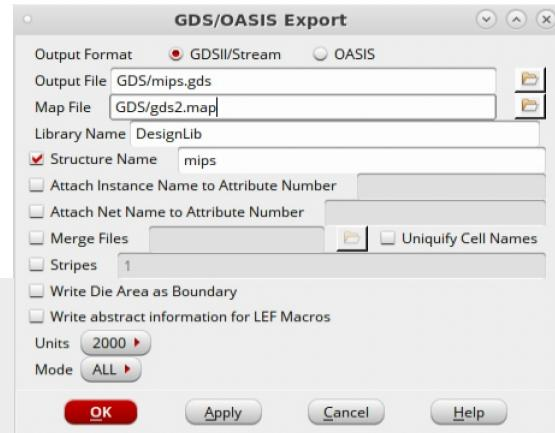

Figure 33: Generating the GDSII file.
2. As in Fig. 33, fill out the appropriate fields.